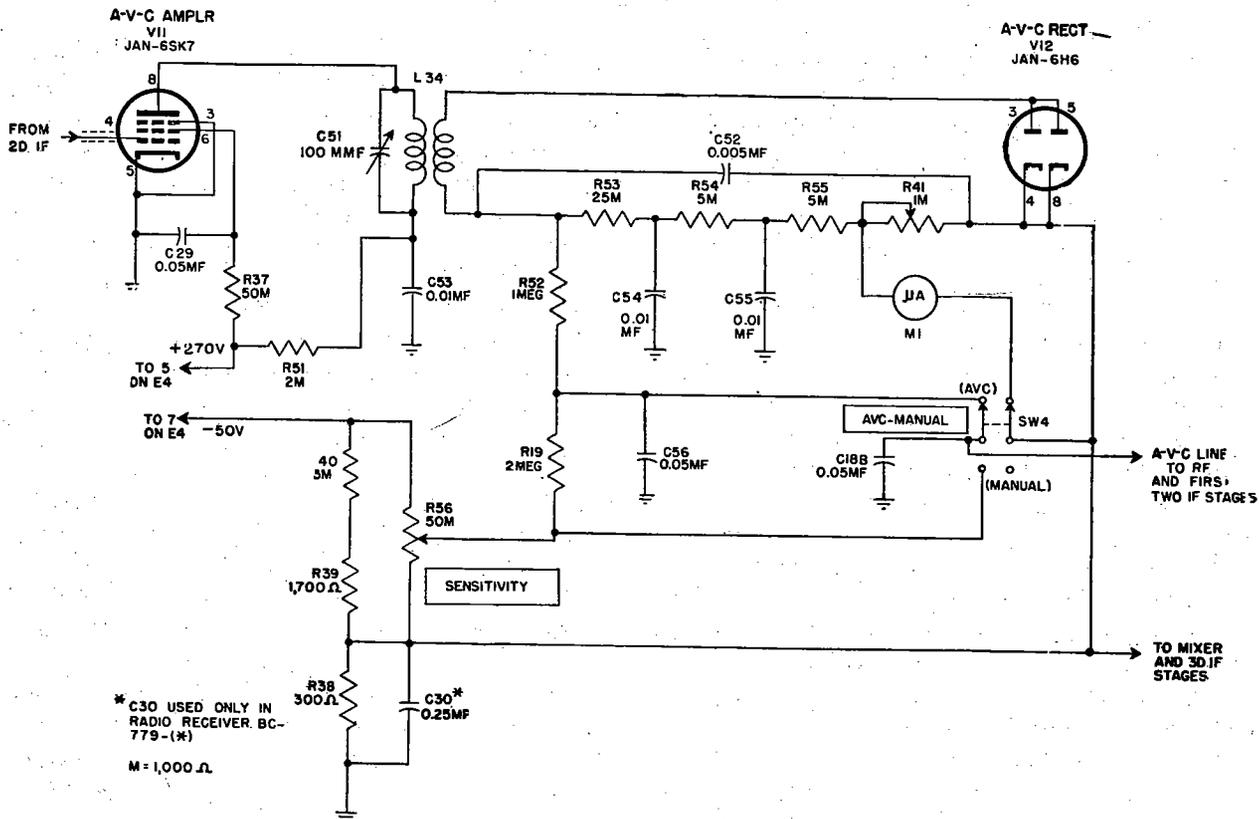

Figure 31. Radio Receiver BC-779-B, functional diagram of a-v-c stages.
a. MIXER TUBE JAN-6L7. For simplicity, capacitor C71, main tuning ganged capacitor C1C, and band spread ganged capacitor C2C are represented as a single variable capacitor C across the inductance trimmed secondary of r-f transformer L18. Signal voltages across C are applied through 600-mmf capacitor C11 to signal grid G1 (top cap) of pentagrid mixer Tube JAN-6L7. Fixed bias from the voltage divider (fig. 31) is applied through a filter circuit (10,000-ohm resistor R10 and 0.01-mf capacitor C12) and 500,000-ohm grid resistor R9 to the signal grid. Screen grid G2 and G4 (pin 4) forms a screen about injection grid G3 (pin 5), and the h-f oscillator output is coupled through 95-mmf capacitor C13 to the injection grid. Since the screen grid shields the signal and injection grids from one another, the tube electron stream is modulated independently by the r-f and oscillator signals. Heterodyne action produces sum and difference frequencies in the mixer output. The primary of transformer T1 is tuned by C21 to the 465-kc difference frequency to which the i-f amplifier is also tuned. The i-f voltage across the secondary winding of transformer T1 is applied to the crystal filter.
## 65. A-V-C Circuit (fig. 31)
and to the control grid (pin 4) of the a-v-c amplifier stage V11 (fig. 31). V7 and V11 have a common grid circuit, including fixed bias. The suppressor and cathode of V11 are grounded; screen voltage is applied to pin 6 through 50,000-ohm series-dropping resistor R37; and the screen is bypassed by 0.05-mf capacitor C29. Plate (pin 8) voltage is applied through 2,000-ohm filter resistor R51 and the primary of transformer L34. The primary of L34 is tuned to 465 kc by 100-mmf capacitor C51, and capacitor C53 (0.01-mf) bypasses high frequencies to ground. The transformer secondary is untuned.